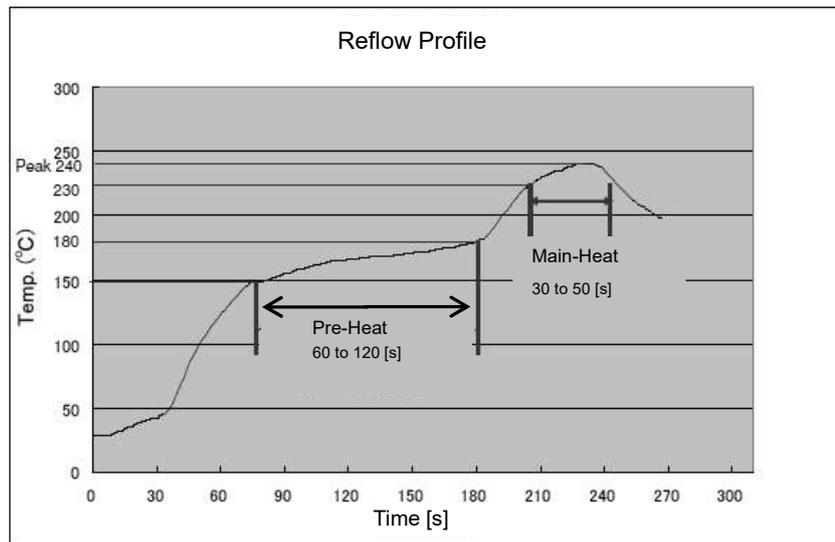

fig.1 Example of recommended temperature profile for reflows
* The temperature profile is specified in terms of the temperature of top surface of the device. This temperature profile shows the maximum guaranteed device temperature. Please set up the optimum temperature profile conditions within the fig.1 profile.